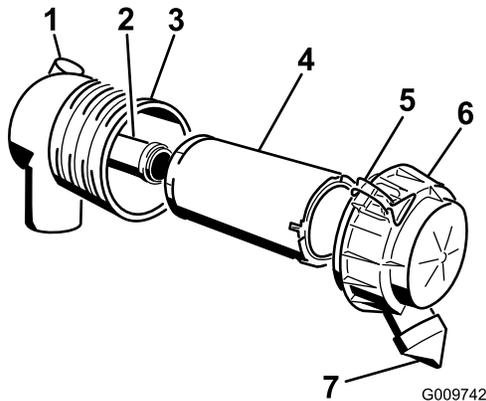

Figure 29
**Important:** Service the air cleaner filter only when the service indicator shows red (Figure 29). Changing the air filter before it is necessary only increases the chance of dirt entering the engine when the filter is removed.
4. Release the latches on the air cleaner and pull the air cleaner cover off of the air cleaner body (Figure 29).
1. Gently slide the primary filter out of the air cleaner body (Figure 29). Avoid knocking the filter into the side of the body.
4. If you are replacing the safety filter, carefully slide the new filter into the filter body (Figure 29).
5. Carefully slide the primary filter over the safety filter (Figure 29). Ensure that it is fully seated by pushing on the outer rim of the filter while installing it.
6. Install the air cleaner cover with the side indicated as UP facing up and secure the latches (Figure 29).